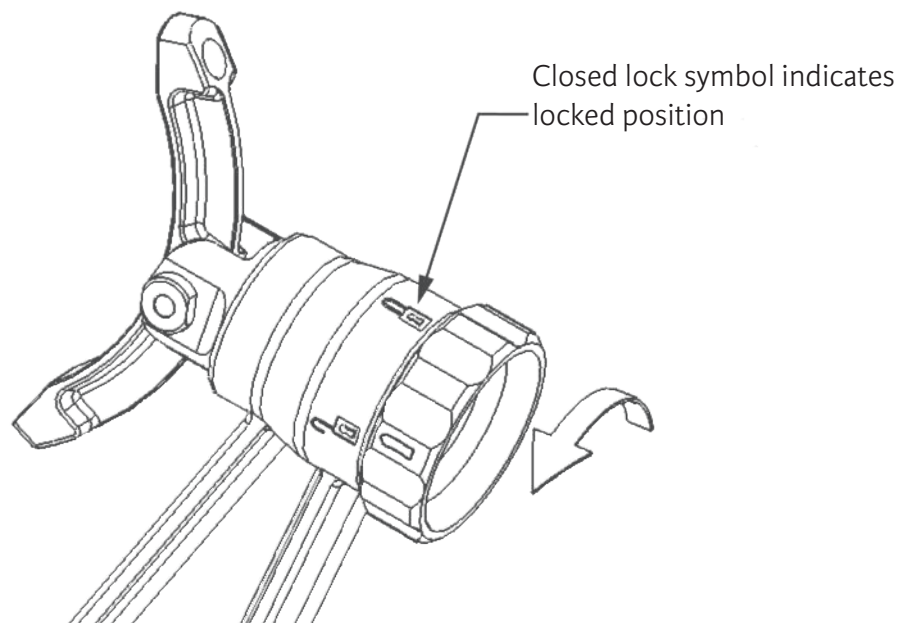

Figure 4 Unlocking Index Locking Knob
1. Unlock the Index Locking Knob so the rocker arm can rotate freely 360 degrees. The Index Locking Knob is unlocked by rotating the knob to align the indicator with the open lock symbol; see Figure 4.
7. Once the force is applied to the clamp and the patient is positioned for surgery, the Index Locking Knob should be turned to the locked position shown in Figure 4.